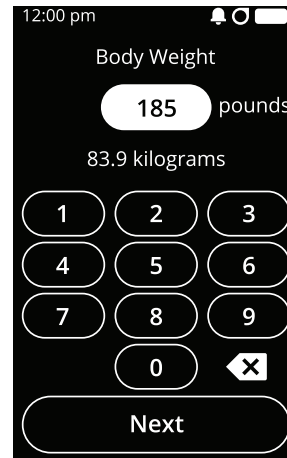

Figure 70
- a. Enter your body weight to the nearest pound. Tap **Next** to continue (see Figure 70).